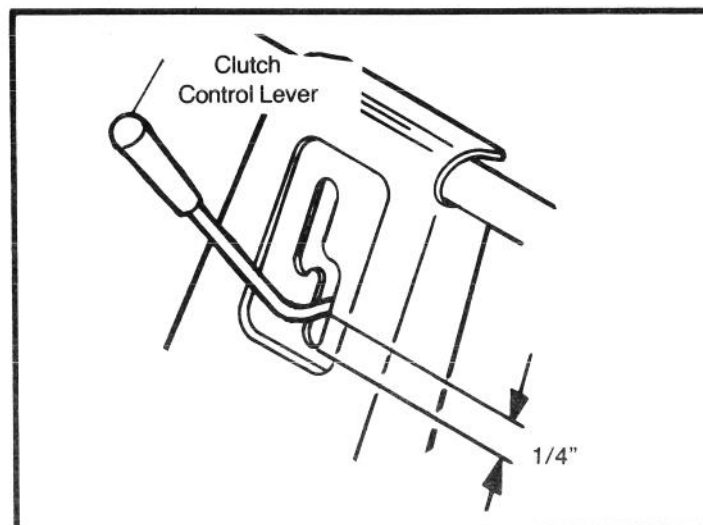

FIGURE 5
- A. Move clutch control lever into "FORWARD" position. **Lightly pull back on the lever to remove play in linkage.** Lever should be $\frac{1}{4}$ " from bottom of slot, as shown in Fig. 5. If setting is not correct see "Clutch Control Lever Adjustment" in ADJUSTMENTS section.